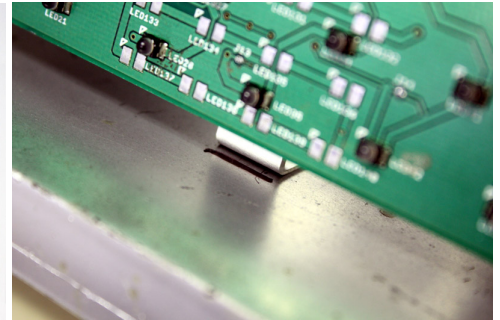

Figure 2
- 3.2. Place the appropriate LED panel assembly into the back housing. (See Figure 2) While positioning the LED panels within the center of each light chambers, as far back into the housing as possible and the aluminum mounting tabs flush against the lower housing surface, mark a line on the back housing just in front of each mounting tabs to indicate their position. (See Figure 2) Then remove the LED panel assembly.